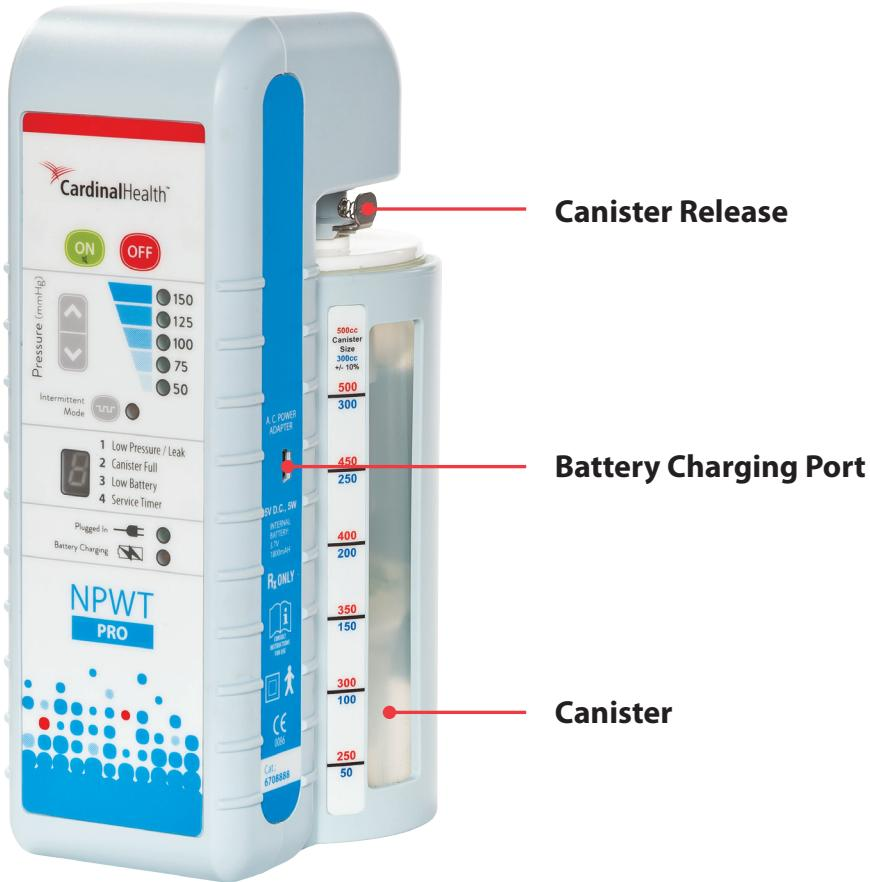

Figure 14
1. Ensure that a Cardinal Health™ Canister is properly inserted in the connector located on the back side of the therapy device (**Figure 14**). The canister should “snap” into place and lock. The canister release button may need to be depressed to permit canister insertion. **NOTE:** Always use a new canister with a new patient.
4. Plug the device's A.C. Adapter into a suitable 100-240 VAC, 50-60Hz, outlet. Insert the power plug into the Battery Charging Port on the side of the device (**Figure 14**). The Cardinal Health™ NPWT PRO family of devices should only be used with the supplied A.C. Adapter. Use of an incorrectly rated adapter could create a shock hazard for the patient and caregiver.